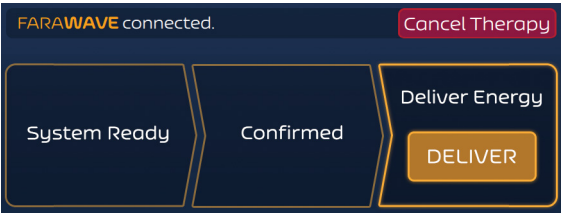

Figure 10. Therapy Screen — Asynchronous Mode — Ready to Deliver State
5. Pressing CONFIRM will enable the DELIVER button as shown in Figure 10.